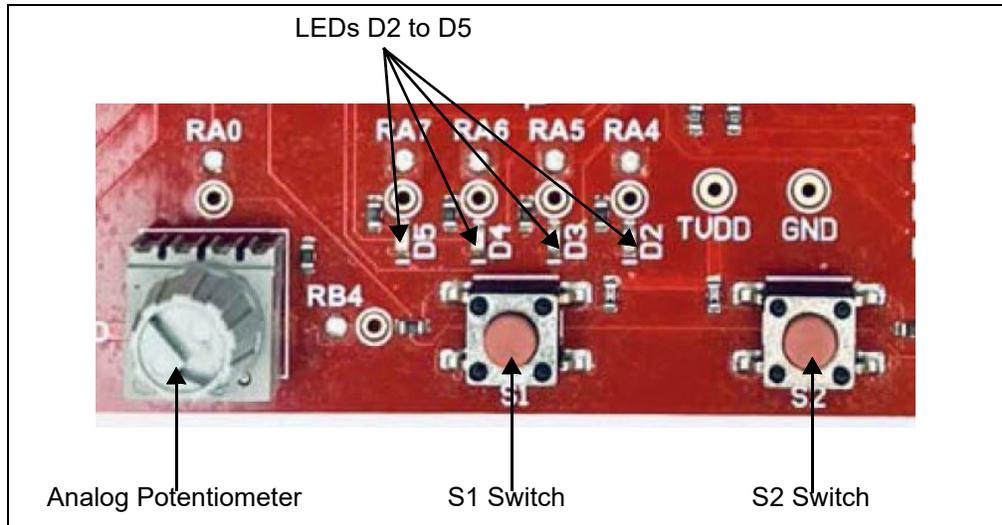
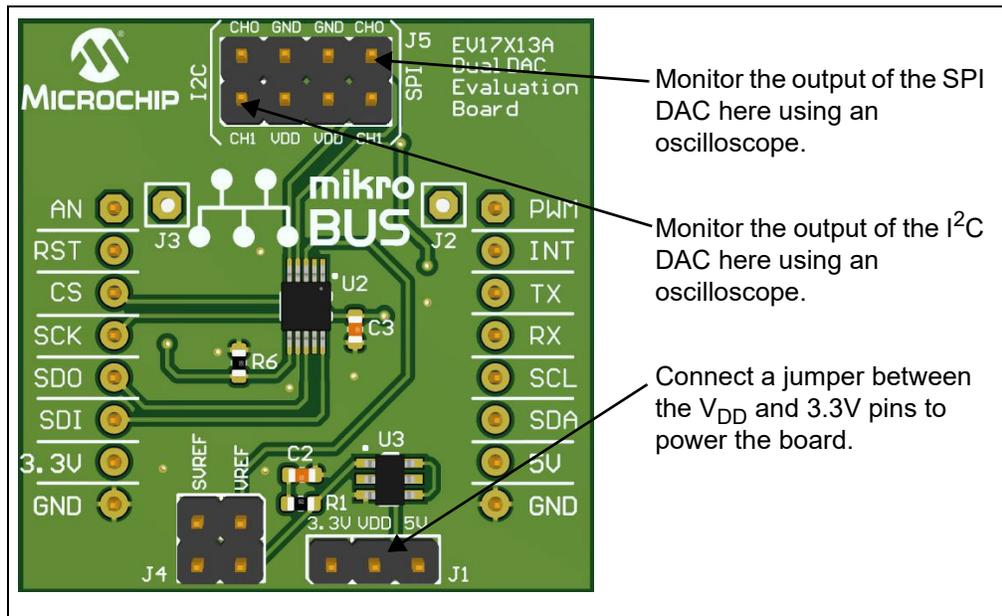

FIGURE 2-13: The LEDs, Switches and the Analog Potentiometer of the Curiosity HPC Board Used for the 1LSb INL Dual DAC Evaluation Board Demo.
FIGURE 2-14: 1LSb INL Dual DAC Evaluation Board SPI and I²C Output Waveform Monitoring.
Step 3. The LEDs on the Curiosity HPC Board will blink based on which code is running, and the user can monitor the DAC's output using the V_{OUT} pin (see Figure 2-13 and Figure 2-14).